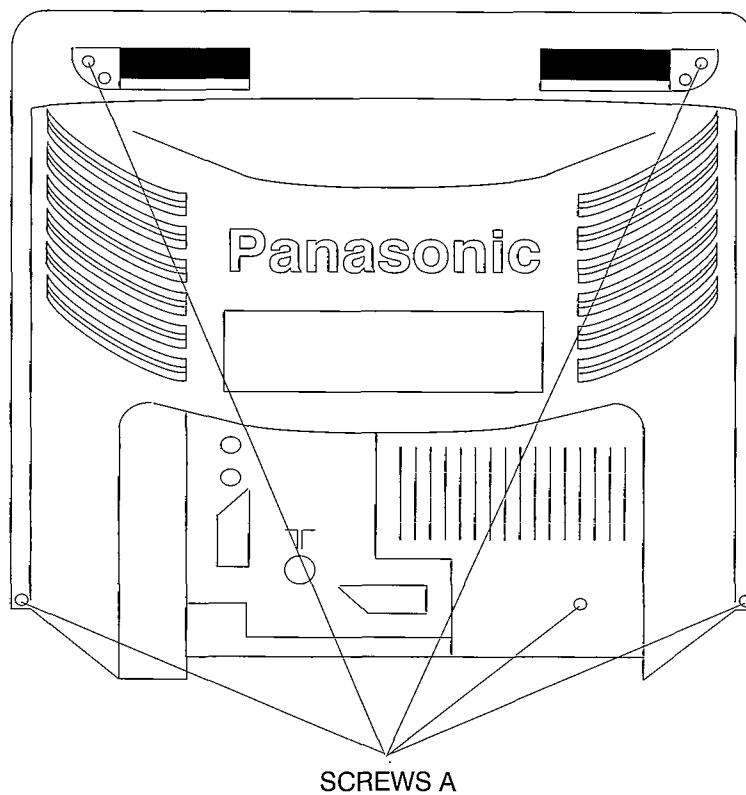

Fig.2.
1. Remove the 5 fixing screws (A) as shown in Fig.2.